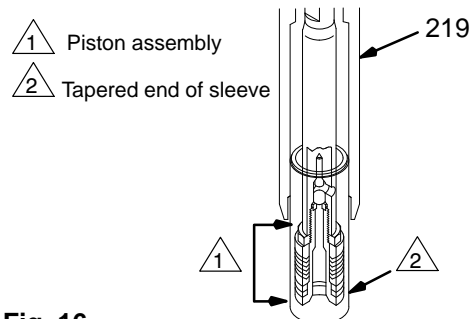

Fig. 16
4. **Note the alignment** of the piston (222) to the piston nut (211) and maintain this alignment through Steps 4, 5 and 6.
5. Apply **ONE** drop of adhesive, supplied with the repair kit, to the piston threads. Place the ball (225\*) on the piston. Hand tighten the piston into the rod (224) just until the nut (211) contacts the rod. Place the flats of the rod in a vise.
6. Tighten the nut (211) onto the rod (224) to 19 ft-lb (25 N.m). Use two wrenches to maintain the alignment as mentioned in Step 3.
7. Stack the throat packings into the top of the cylinder (219). Install the packing nut (216) loosely.
8. Insert the piston rod assembly into the **top of the sleeve**. Install the gasket (202) on the sleeve. Slide the sleeve assembly into the **bottom of the cylinder**. Note that the tapered end of the sleeve is the bottom. See Fig. 16.